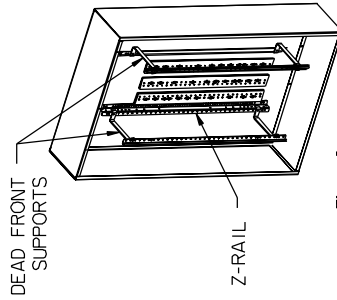
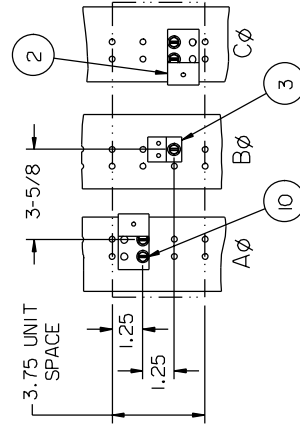

Figure 2
Figure 4
3. Reference fig. 2 - To mount a BL/BQD Breaker, 3-3/4" of empty unit space is required. To locate the mounting position, measure from the top dead front support to the top of the empty unit space filler on the dead front. Transfer this dimension from the dead front support along the Z-rail and mark. This will be the unit space as shown on Fig. 4. After marking the Z-rail, remove the dead front.
5. Reference fig. 4 - Installing the Phase Straps. Locate two 0.228" diameter holes in the AØ Bus 1-1/4" down from the top of the 3-3/4" empty unit space selected. Insert two 1/4-20 thread forming screws (see mounting hardware kit for the proper length) through two 0.281" diameter holes in an A/C Strap (item 2) and into the holes in the two selected holes in the AØ Bus (orienting the A/C Strap as shown) and tighten. Repeat this step to mount the second A/C Phase Strap to the CØ Bus using two 0.228" diameter holes in the CØ Bus down 1-1/4" from the holes used on the AØ Bus and tighten. Insert another 1/4-20 thread forming screw through the 0.281" diameter hole in the BØ Strap (item 3) and into a 0.228" diameter hole in the BØ Bus down 1-1/4" down from and 3-5/8" to the right of those used on the AØ Bus (orienting the BØ Strap as shown) and tighten. Torque all hardware as specified on the rear of the deadfront.